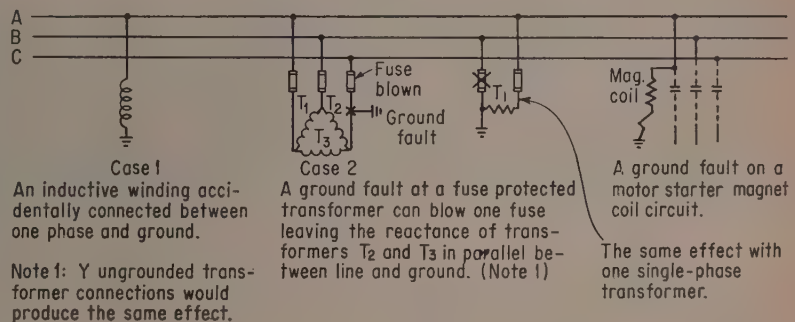
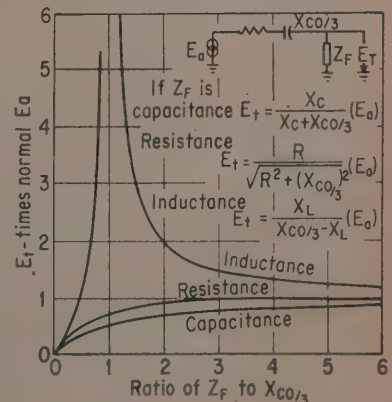

Fig. 2
Fig. 3
In Fig. 3 are shown the magnitudes of line-to-ground voltages created on the faulted phase by a single line-to-ground fault of resistance, inductive reactance, or capacitive reactance, and the mathematical expressions which control them. (For a detailed explanation of the circuit behavior, see "Industrial Power Systems Handbook"—a McGraw-Hill Book—Chapter 5.) An inductive-reactance ground-
fault (caused perhaps by a grounded motor-starter magnet coil or a grounded transformer winding—see Fig. 2) can create elevated line-to-ground potentials of many times normal. In this instance the observed value of 270 volts is about two times the normal value of 139 volts. To obtain a voltage elevation of two times normal (see Fig. 3) requires that the ohmic value of X_L be twice that of the total capacitive reactance to ground $X_{co}/3$; or $X_L = 2/3 X_{co}$. (Note that twice normal voltage on the "A" phase could also be produced with an X_L lower than $X_{co}/3$. In this case, however, ground potential would lie beyond the "A" phase in the opposite direction such that the line-to-ground voltages on the "B" and "C" phases would be greater than on the "A" phase.)
sistor. Fig. 3 again presents the answer to the resulting line-to-ground voltage magnitude. For $R_F/X_{co}/3 = 30/670 = 0.045$, the resulting "A" phase voltage to ground, $E_t = 0.045 \text{ normal} = 0.045 (139) = 6.25$ volts. Thus, in reality the connection of the lamps causes the voltage to drop to a very much lower value but not actually to zero.